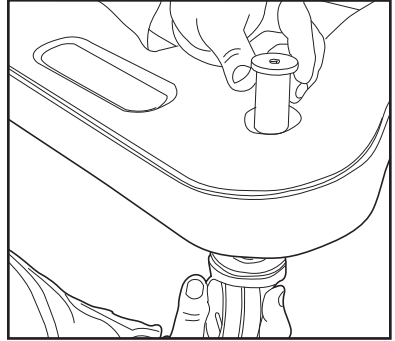

Fig. 3
1. Attach rear casters using caster nuts. (See Fig. 3)
8. Insert a clevis pin into the second hole behind the handle. (See Fig. 3). This serves as a handle stop.